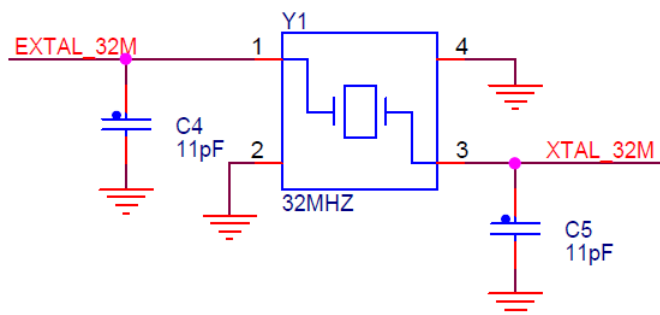

Figure 7. USB-KW40Z board's 32 MHz reference oscillator circuit
- 32 MHz Reference Oscillator - Figure 7 shows the external 32 MHz external crystal Y1. This mounted crystal must meet the specifications outlined in the AN3251 application note. The IEEE Std. 802.15.4 requires that the frequency be accurate to less than  $\pm 40$  ppm.